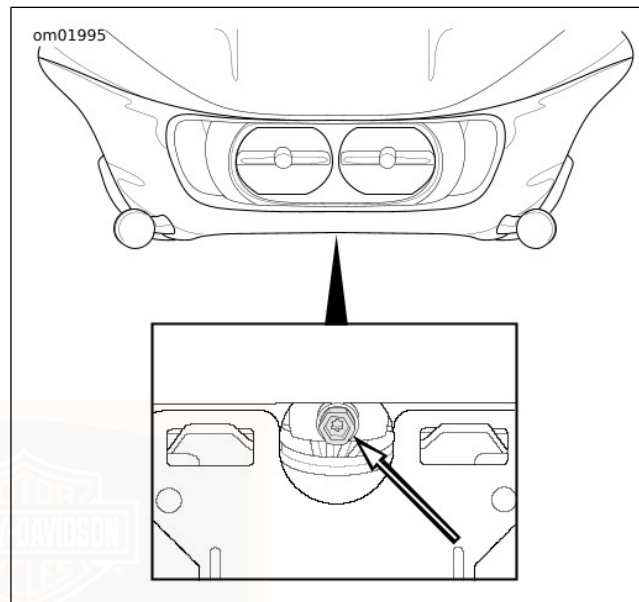

Figure 85. Headlamp Adjuster: FLTRU, FLTRX, FLTRXS
3. **Frame-mounted fairing models:** See Figure 85.